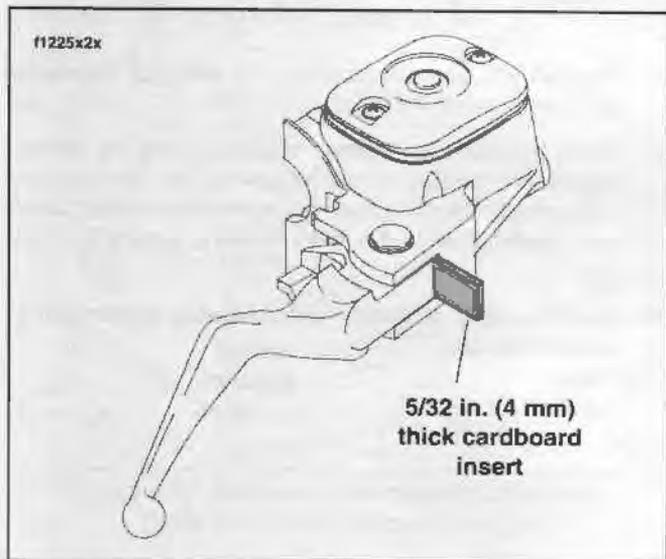

Figure 8-60. Install Cardboard Insert
1. See Figure 8-60. Place the cardboard insert between the brake lever and lever bracket.
See Figure 8-60. Do not remove the switch housing assembly without first placing a 5/32 inch cardboard insert between the brake lever and lever bracket. Removing the assembly without the insert in place may result in damage to the rubber boot and plunger of the front stop-light switch.